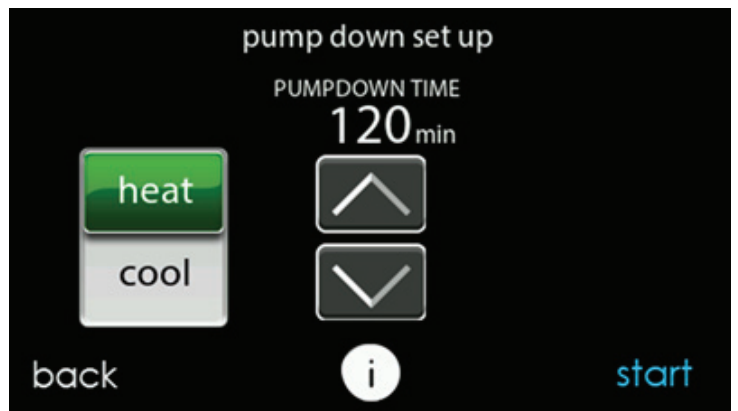

Fig. 21 – Pump Down Setup Screen A200040
3. Pump down in COOL mode allows refrigerant to be isolated in outdoor unit. Set desired time period. Default time period for the procedure is 120 minutes. See Fig. 21.